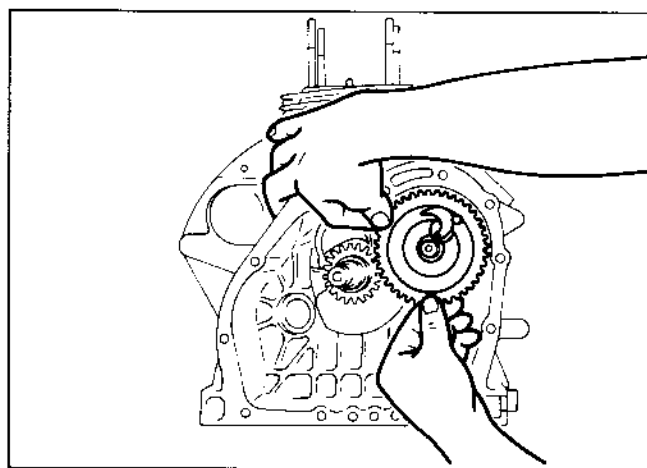

FIG. 35
| 19   | Camshaft                    | (1) Remove the camshaft from the crankcase. (See Fig. 35.)(2) Remove the tappets from the crankcase. | (1) To prevent the tappet from falling and getting damages, put the crankcase injection pump side down.(2) Put marks on the tappets to distinguish intake tappet from exhaust. |      |